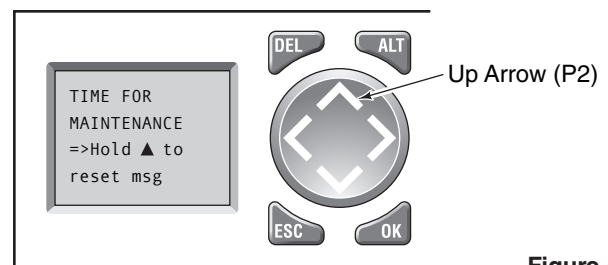

Figure 41
1. To reset the Counter, with the TIME FOR MAINTENANCE message displayed on the screen, press and hold Arrow Up (P2) for 4 seconds. The counter will reset and the message will erase. See *Figure 41*.